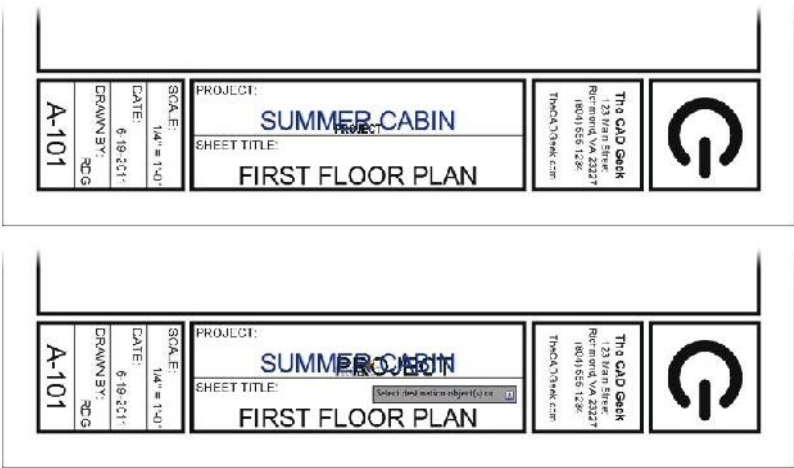

FIGURE 14.9: Matching the properties of the SUMMER CABIN text string with the PROJECT attribute definition
11. With Match Properties running, select the SUMMER CABIN text string as the source object (see the top image of Figure 14.9), and then select the PROJECT attribute definition as the destination object (see the bottom image of Figure 14.9).